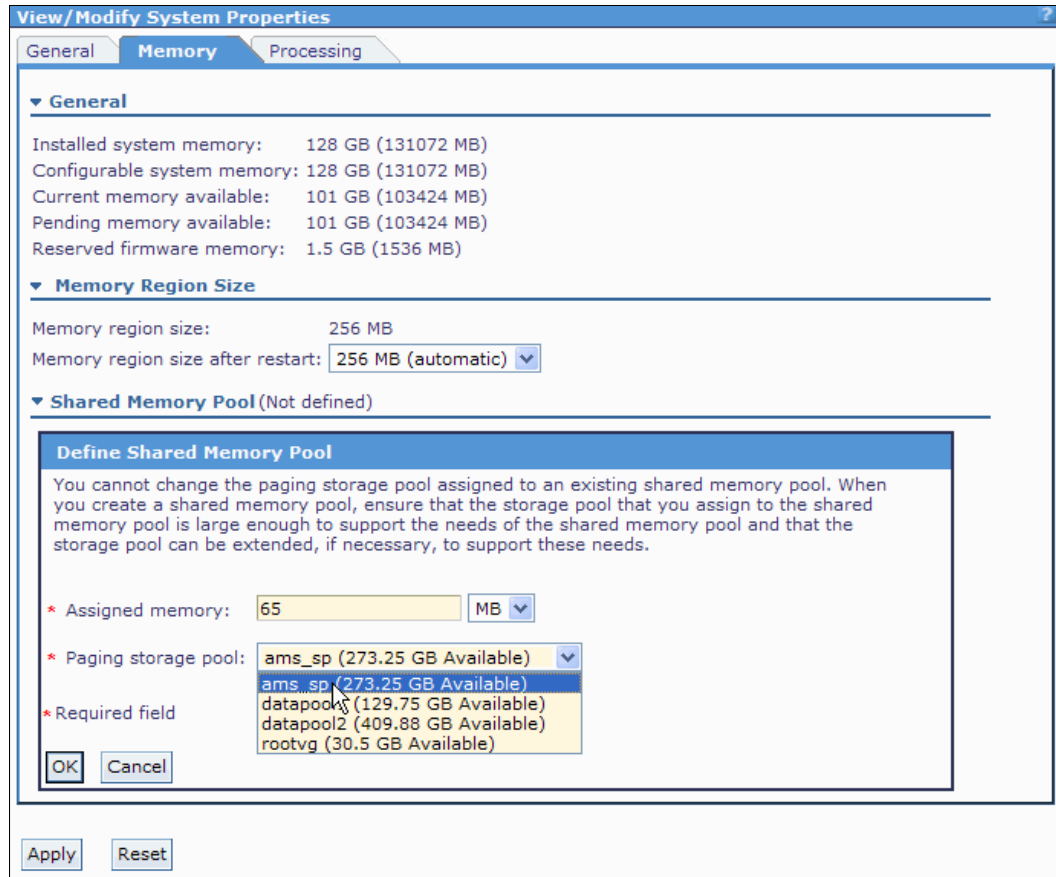

Figure 4-23 Storage pool selection for AMS paging devices
4. Choose the wanted storage pool for AMS paging devices by using the drop-down list of the Paging storage pool field, as shown in Figure 4-23. Remember that the wanted storage pool must be previously created before the AMS pool creation (see 4.2.3, “Storage pool disk management” on page 52 for more information about storage pools). Select GB from the drop-down list (MB is shown). Click **OK** to accept the options.